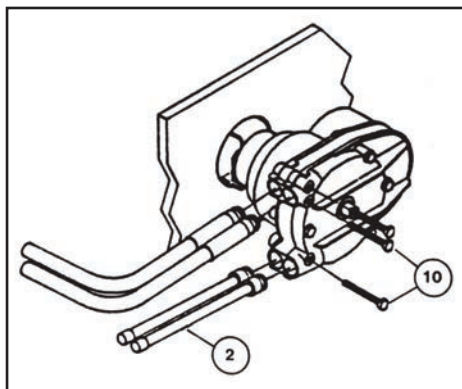

Figure 8.
**STEP 2.** Feed the cable ends into the **UPPER** entry spigots, keeping the conduit fittings aligned, until they contact the internal gears. Then turn the steering wheel to draw the cables fully into the helm. Continue turning wheel until both conduit end fittings are fully inserted into the entry spigots. See Figure 8.
**STEP3.** Insert two bolts (item 10) into the helm and tighten fully, making sure that the bolts are in the retaining grooves of both cable fittings. See Figure 8.
**STEP4.** Feed the Spent Travel Tubes (item 2) over the exposed cable ends and insert bolt (item 10) into the helm, tighten fully. See Figure 8.